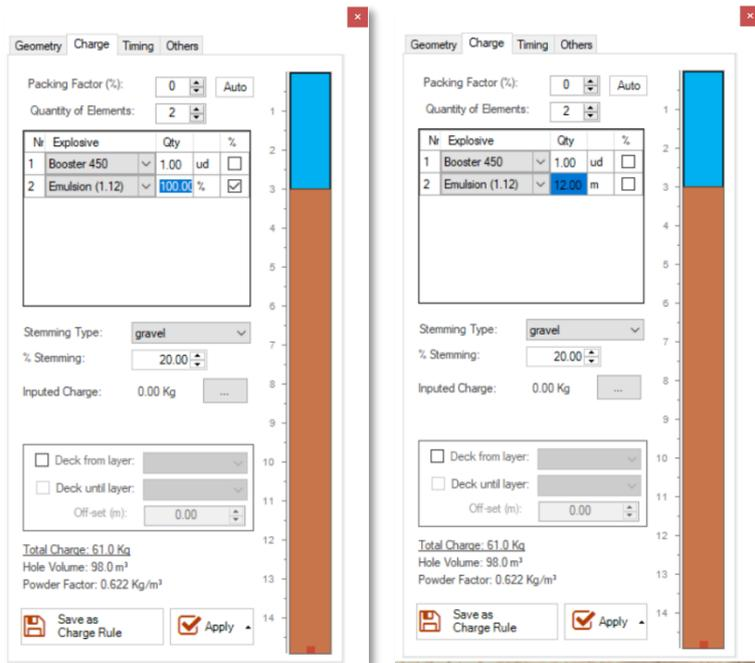

Figure 275 - Left (A): Adding column charge by percentage; Right(B): Adding column charge by meters.
- by percentage: the user selects the hole percentage to be filled by the product (Figure 275 A)
- by meters: the user selects the meters to be completed by using the product (Figure 275 B)